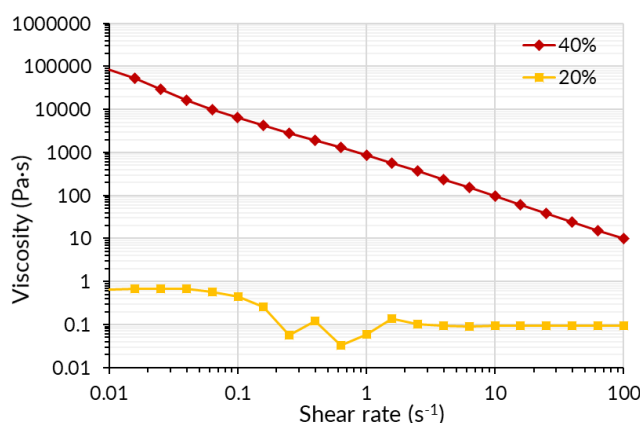

Figure 1. Viscosity of Pluronics dissolved in deionized water at 20% and 40% over a shear rate range of 0.01 to 100 s^{-1} , 25°C.
- See Figure 1 for difference in viscosity of Pluronics gels of different concentrations.